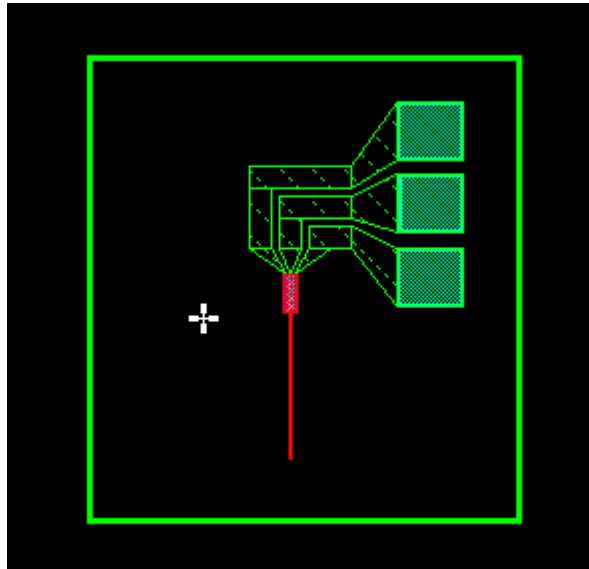

Figure 43: Floorplan Layer Encompassing All Drawn Structures
2. Draw a box encompassing all drawn structures (see Figure 43).